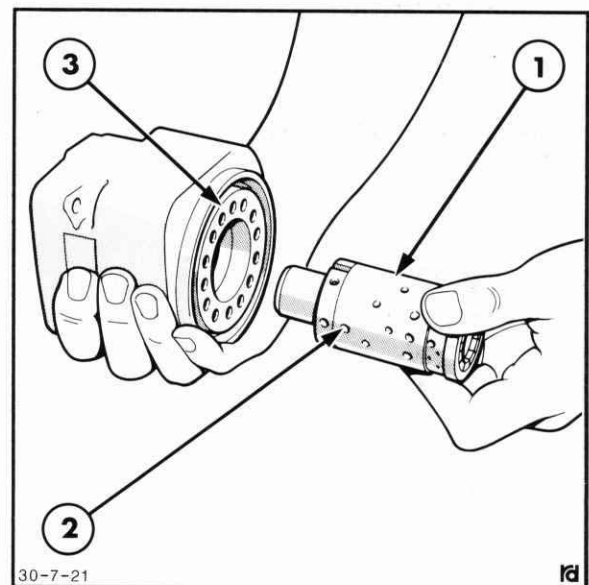

Figure 7-39
10. Firmly push the complete valve assembly into the housing, Figure 7-39. This will push the seal guide from the housing, leaving the O ring and back-up seal in position.